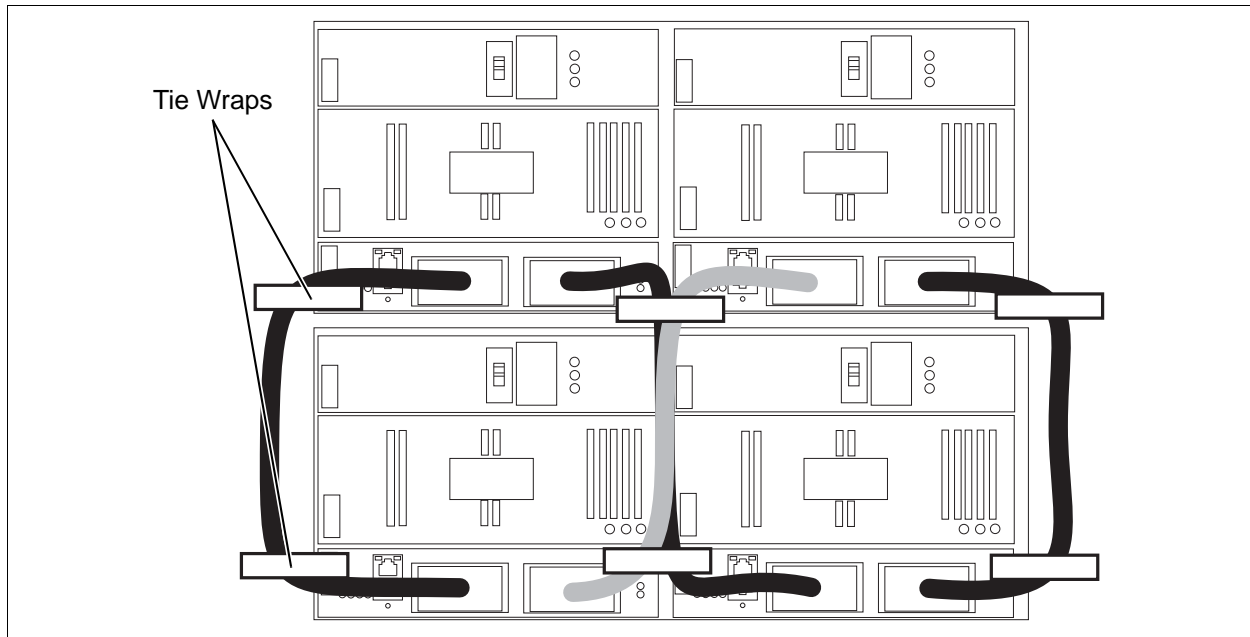

Figure 3-8 Securing HyperStack Cables
7. Secure the HyperStack cables in place using ties wraps as shown in Figure 3-8. Secure the outer cables to the rack posts; secure the inner cables to each other. This reduces cable clearance to 7–8 inches and provides room for the removal of the Power Supply and Fan blades on the lower switch.